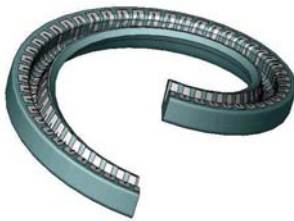

Figure 12: Split Seal Separation
- Split the seal along the axis of rotation (*shown in Figure 12*) and place the seal around the shaft.